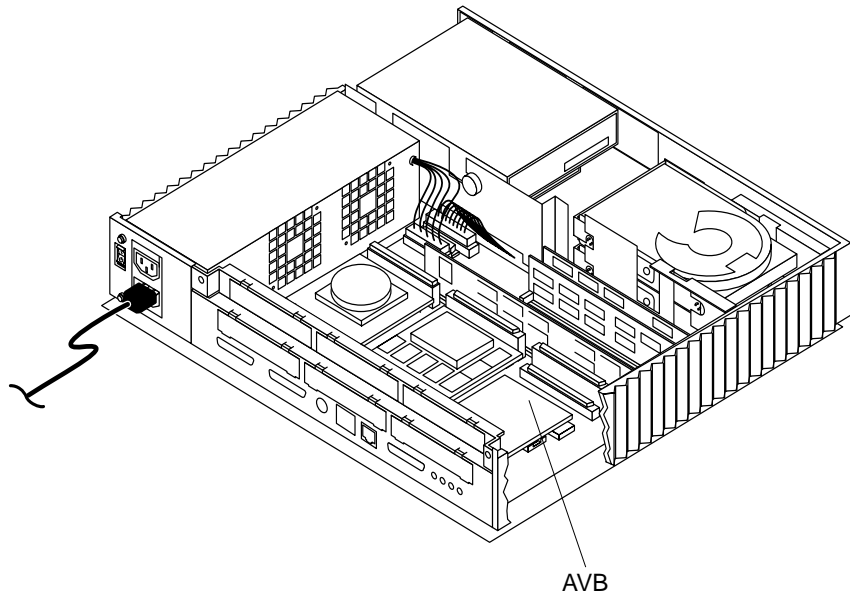

FIGURE 11-33 AVB Installed
3. Locate the AVB (FIGURE 11-33).
5. Grasp the upper corners of the AVB and lift to remove the AVB from the slot (FIGURE 11-33).
See FIGURE 11-33.